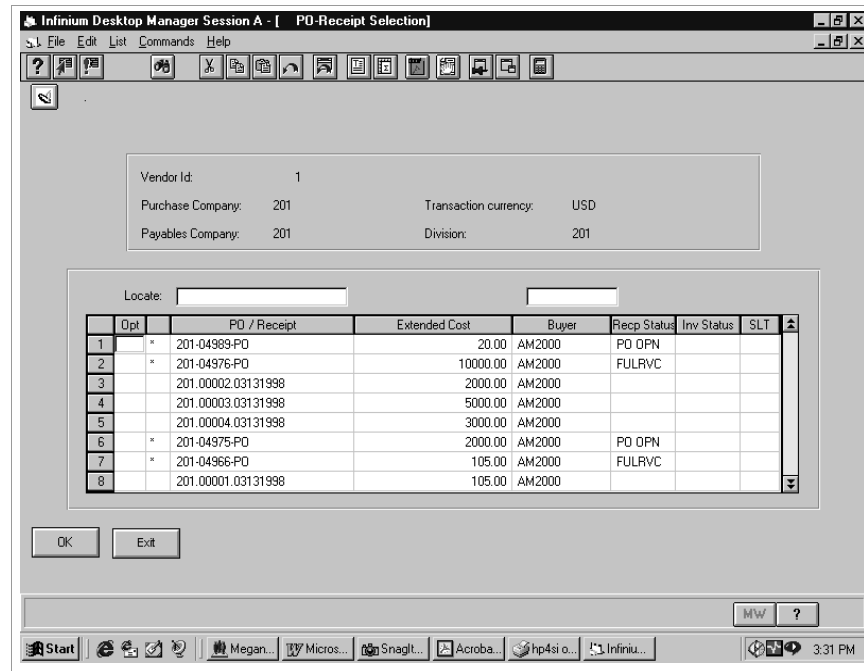

Figure 5-8: PO-Receipt Selection screen
You must complete creation of the invoice session as described earlier in this chapter before you can select or display purchase order information. You begin on the screen shown in Figure 5-8.
You can choose to display the purchase order information at the purchase order header level or at the purchase order detail level. After creating the invoice session as described earlier in this chapter, you begin the selection process at the PO-Receipt Selection screen shown in Figure 5-8.
- 3 Exit or cancel to return to the PO-Receipt Selection screen as shown in Figure 5-8.
- 1 On the PO-Receipt Selection screen shown in Figure 5-8, select a purchase order. The system displays an asterisk (*) to the left of lines that represent purchase orders. You can select multiple purchase orders on this screen.
You can select at the purchase order header level or at the purchase order detail level. To select at the purchase order detail level, you must first create the invoice session as described earlier in this chapter. You begin the selection process at the PO-Receipt Selection screen shown in Figure 5-8.
- 4 Press Enter. The system saves your selections and returns you to the PO-Receipt Selection screen shown in Figure 5-8.